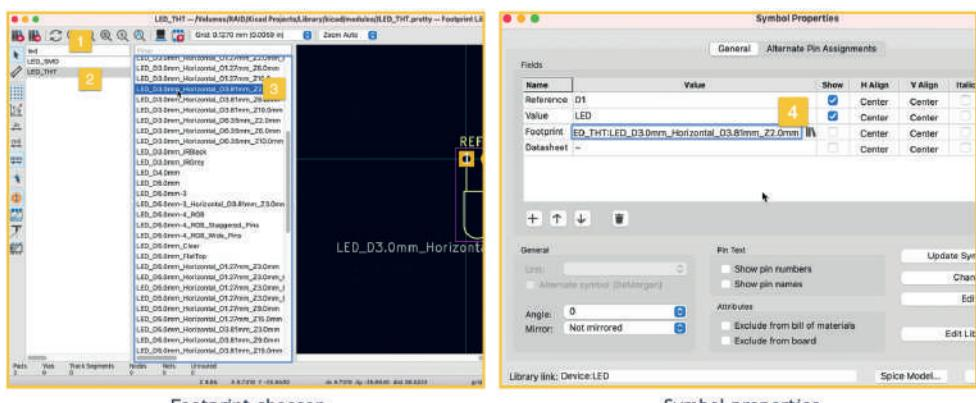

Figure 3.7.7: The footprint chooser and Symbol properties windows.
You can type the footprint identifier in the footprint field, although it is safer to click on the footprint library button to bring up the footprint chooser window (Figure 3.7.7). You can use the footprint chooser to search (1) and browse (2) for the desired footprint. Double-click to select it (3) and associate it with the symbol (4) when you find it. Before you close the symbol properties window, click on the "Show" check box of the Footprint property to display the footprint reference in the editor.